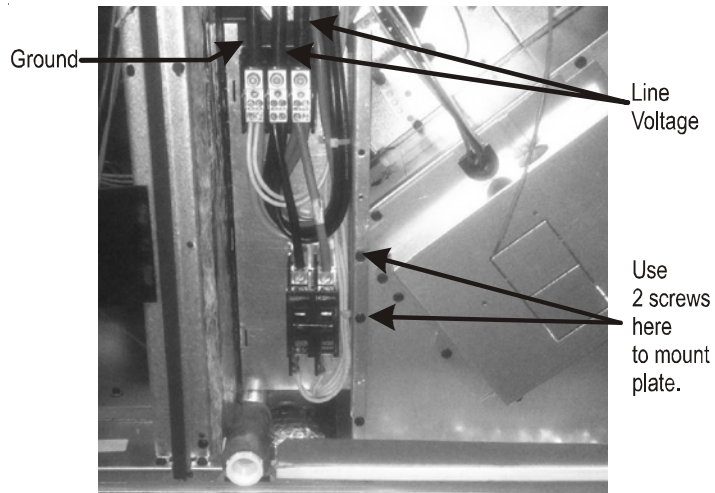

Figure 6
4. Remove the 2 screws in the blower housing and use these to mount the single point assembly as shown in Figure 6.
8. Connect the ground wire to the lug on the far left (Figure 6).